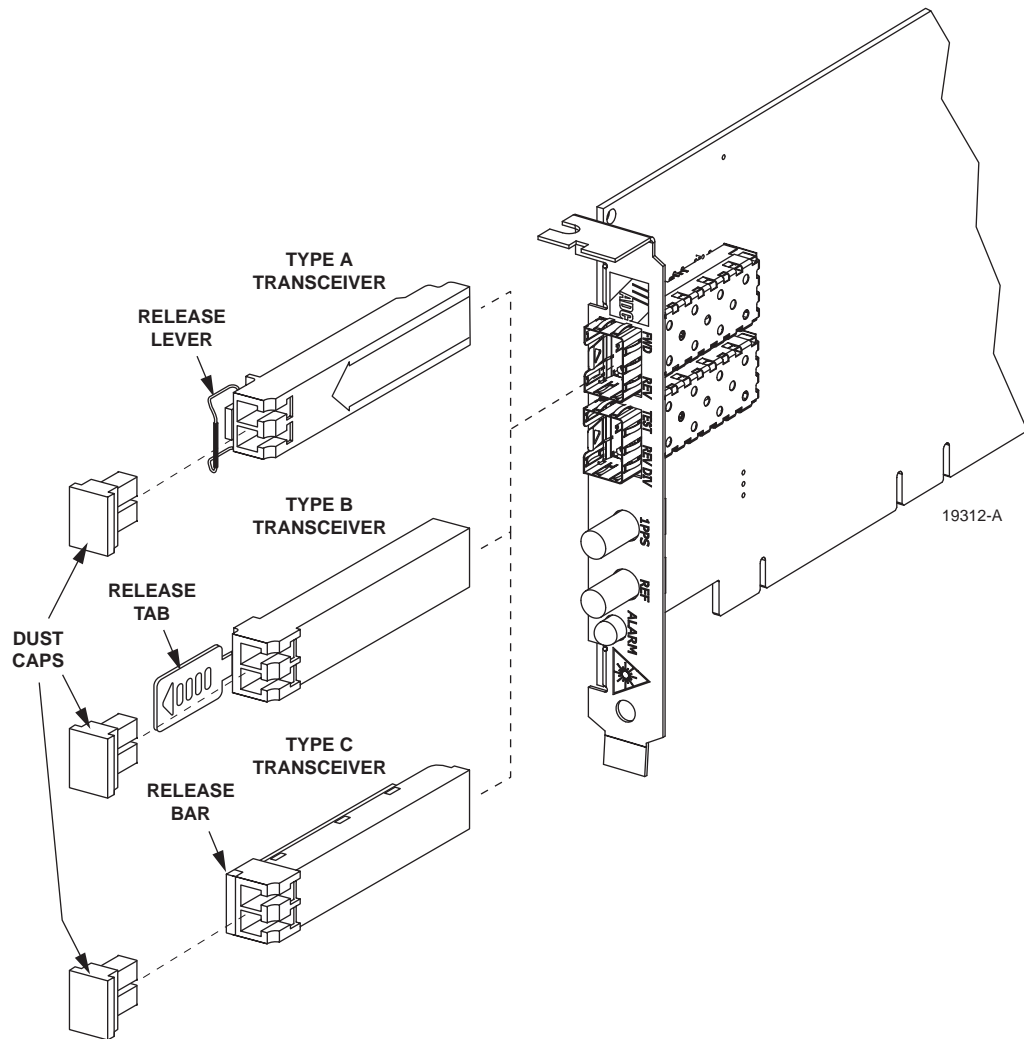

Figure 5. Optical Transceiver Installation
2. Locate the appropriate transceiver socket on the front of the WBDR card as shown in Figure 5 and remove the cover from the socket.
► **Note:** A variety of optical transceivers are available, all provide the same functionality. On the type A optical transceiver, the release lever (see Figure 5) must be closed for installation.
3. Select optical transceivers shown in Figure 5.
4. Remove transceiver from anti-static packaging and orient for installation. See Figure 5.